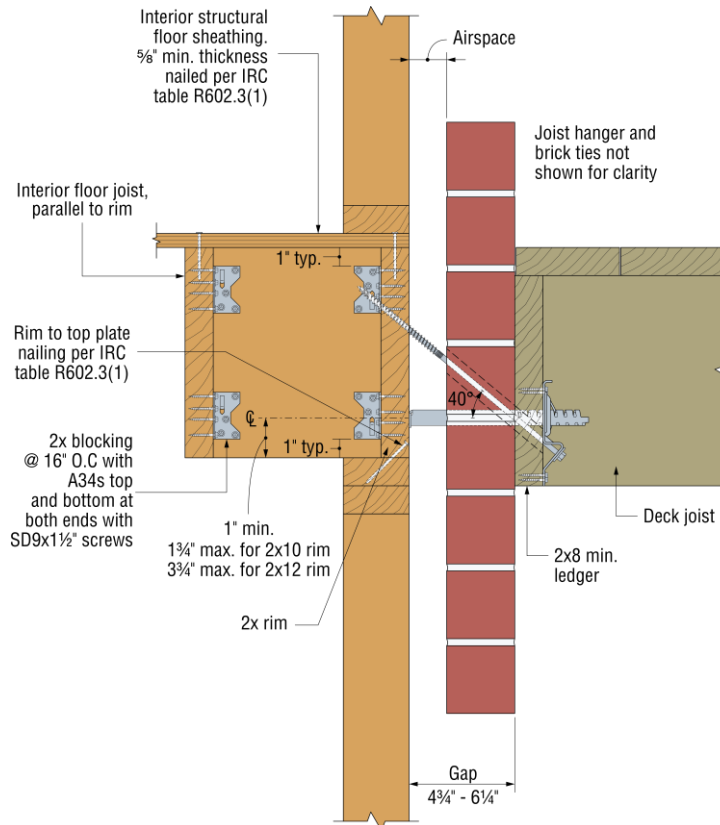

Figure 3a
Table 3 provides the maximum on-center spacing for the BVLZ when the interior structural framing meets IRC requirements and the rim board is reinforced with A34 angles as shown in Figures 3a and 3b. See Figures 3a and 3b below the table for additional information on IRC requirements and reinforcing of the rim. Maximum on-center spacing of the BVLZ is listed. Decrease the on-center spacing when necessary to accommodate deck joist spacing.
1. See Figures 3a and 3b for minimum framing, IRC fastening, and rim board reinforcing requirements.